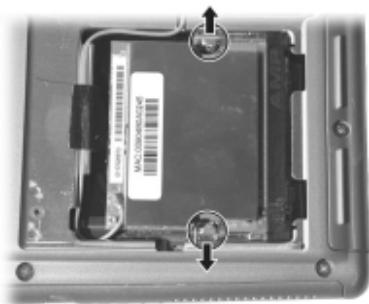

Figure 2-12
3. Pull the retaining clips outwards and remove the Mini PCI card. (Figure 2-12)